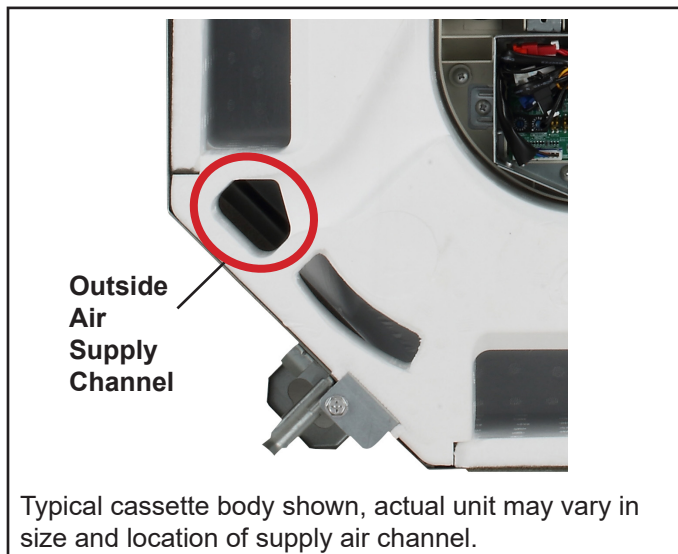

Figure 15. Typical Outside Air Supply Channel
3. Make sure the outside air supply channel is clear of Styrofoam and debris. See Figure 15.